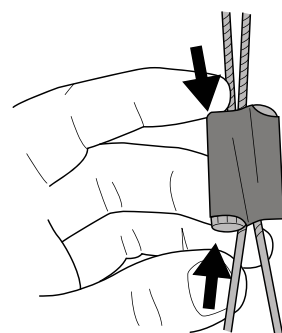

FIGURE 16
- 5) Once the cable is threaded through the cable hanger, secure the cable by pressing the buttons found at the top and bottom on the left side of the cable hanger. (See **FIGURE 16 and 17**)